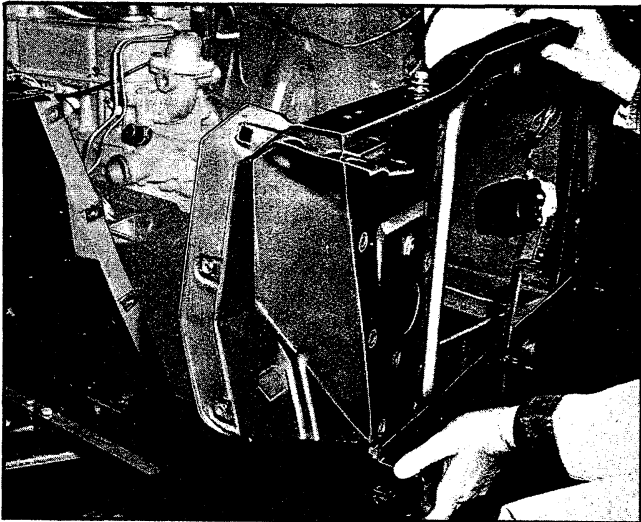

Fig. 23 - Removing Radiator Support from Vehicle
7. Remove radiator support from vehicle (fig. 23).